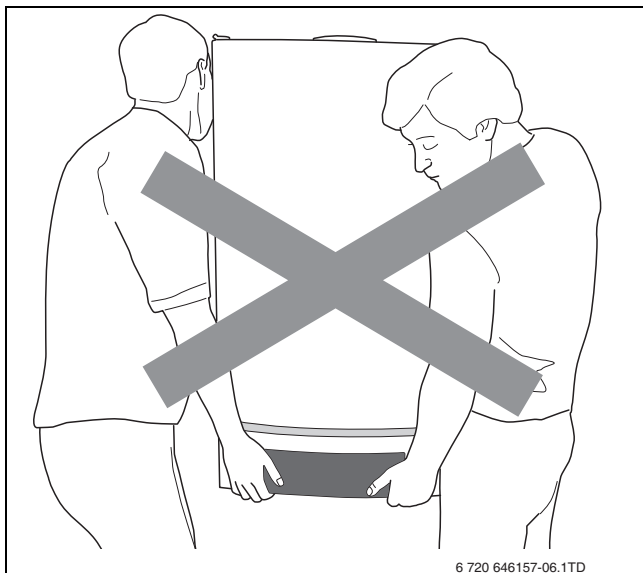

Fig. 7 Incorrect way of lifting and carrying the boiler
- Do not hold the boiler by the door covering the control panel (→ fig. 7).